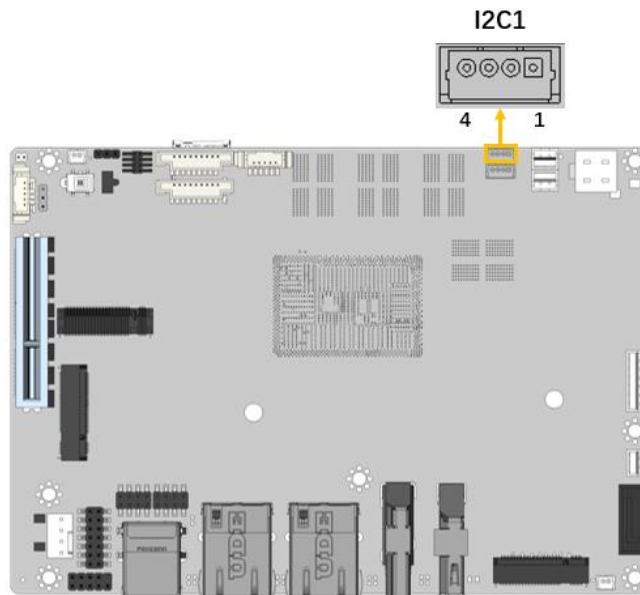

Figure 3-18: I²C Connector Location
- CN Location:** See **Figure 3-18**